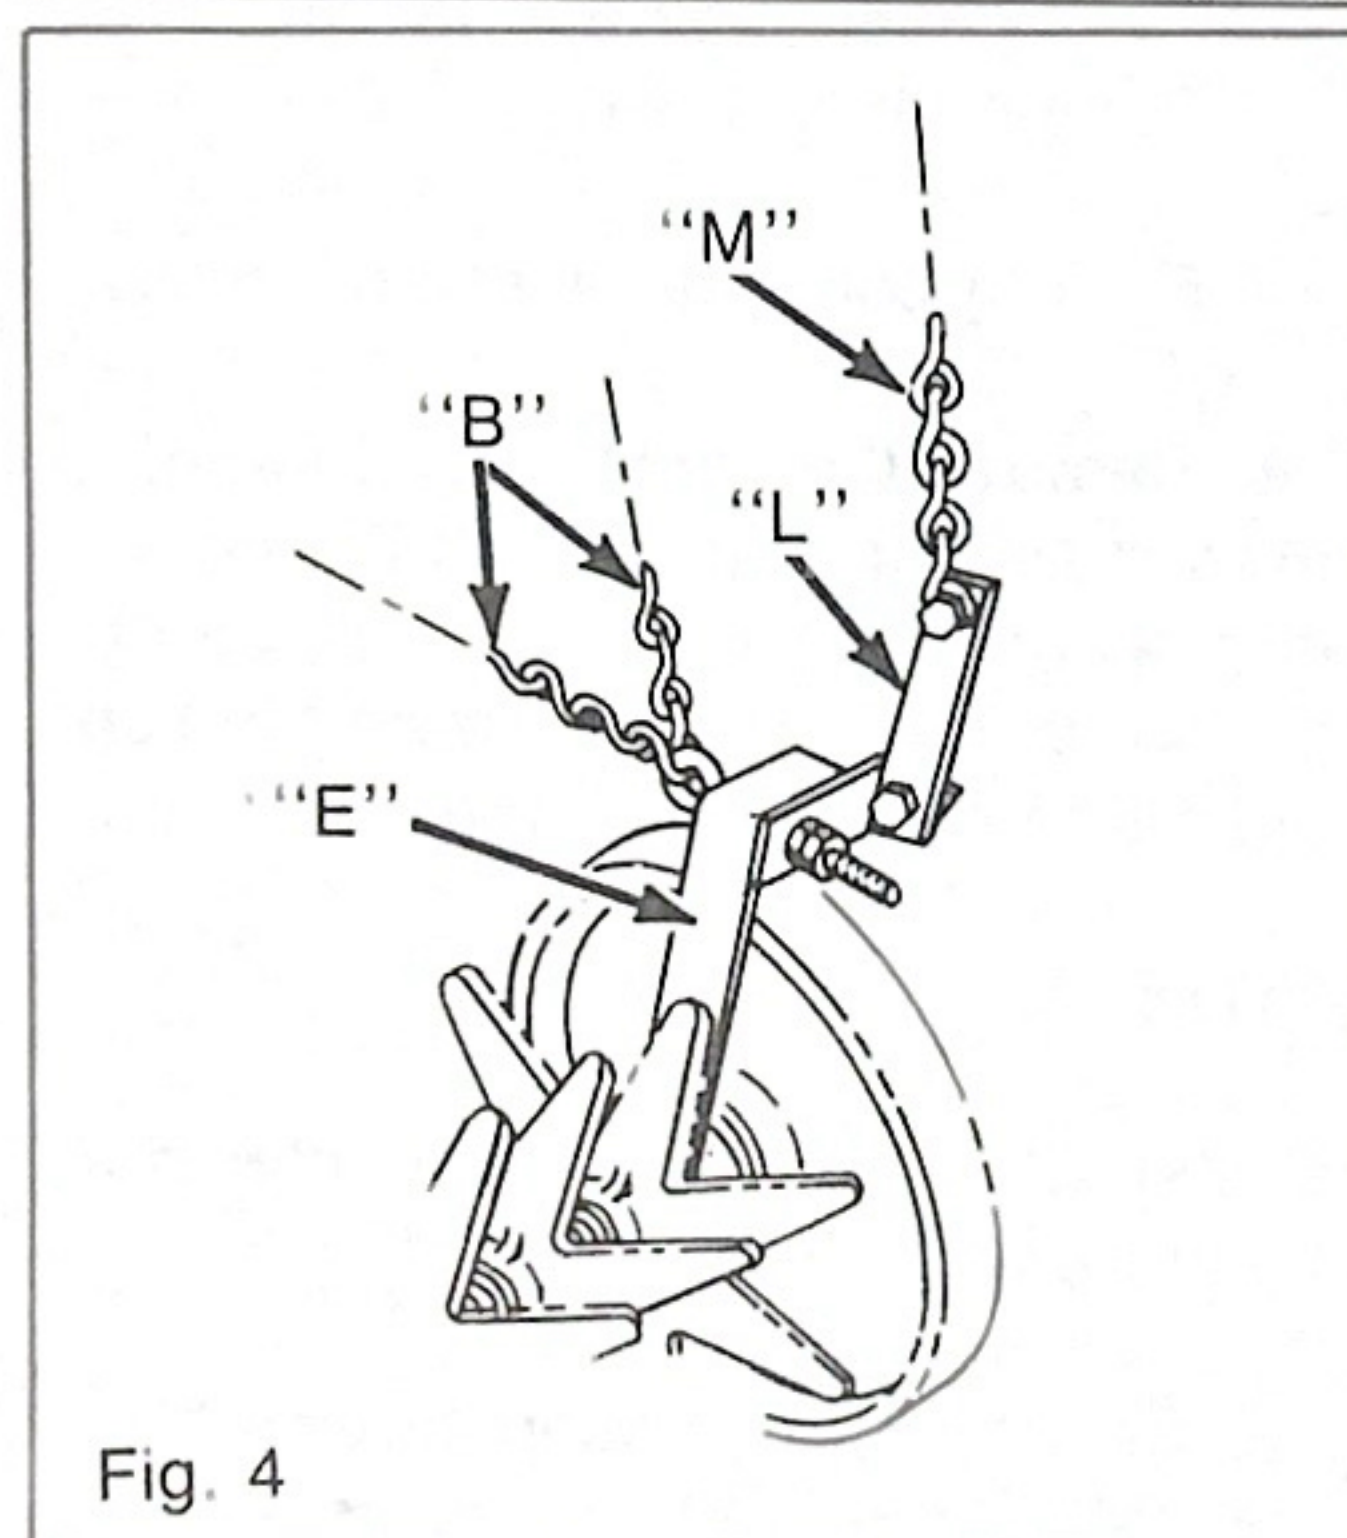

Fig. 4
A. Turn thatcher assembly upside down so that wheel bracket "E" Figure 4 is to the bottom and tine springs are pointed up.
6. Secure the eye bolt of chain "B" Figure 4 to center wheel bracket "E" using (2) 1/4-20 hex nuts. Before tightening the two nuts together make sure there is a little slack in the chain.
7. Secure lift chain plate "L", Figure 4 to center wheel bracket using a 1/4-20 x 1/2" hex bolt and lock nut.